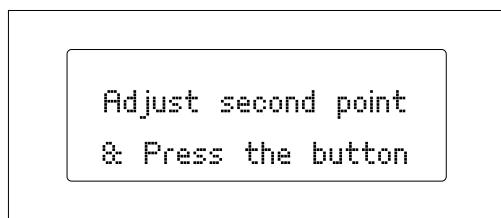
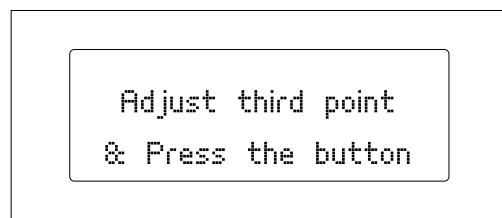

Figure 3.13 Second levelling point
Figure 3.14 Third levelling point
③ Press the control wheel again and the extruder will move onto the second calibration point (fig. 3.13). Repeat the process above and then do the same for the third calibration point (fig. 3.14).